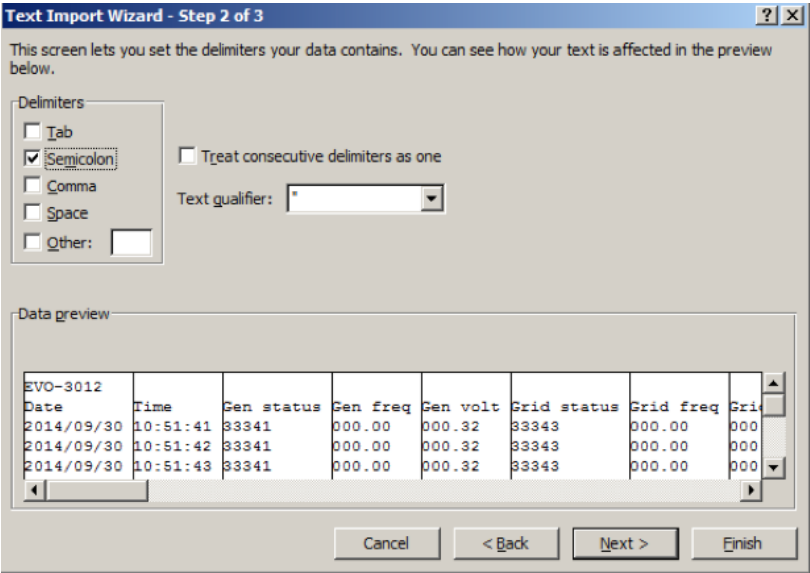

Fig 5.3 Screen Shot of Step 2 of "Text Import Wizard" in Excel
- Text Import Wizard – Step 2 will appear (see Fig 5.3). Choose "Semicolon" and click 'Finish' button.